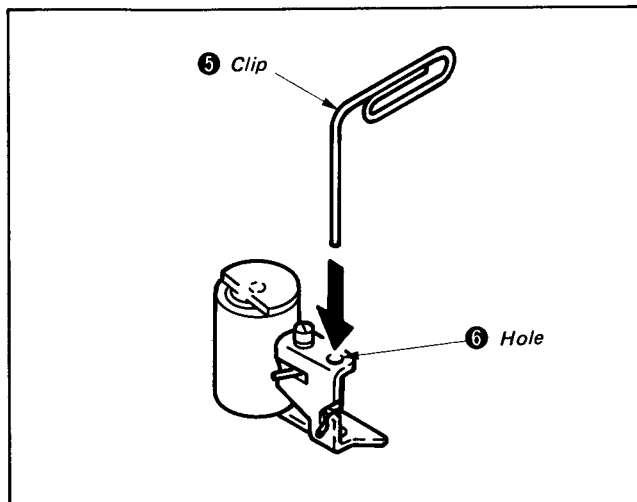

Fig. 1-23
- 2) Reinsert a thin object like a clip **5** into the pinch roller assembly hole **6**. (See Fig. 1-23 and 24.)